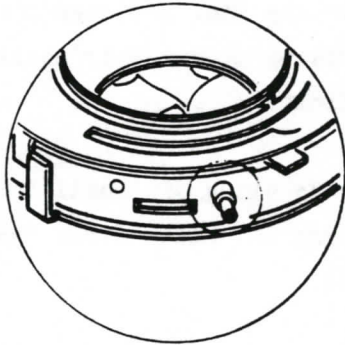

Fig. 159
4. Tighten one piece of Set screw (A2x3.5) as shown in Fig. 159